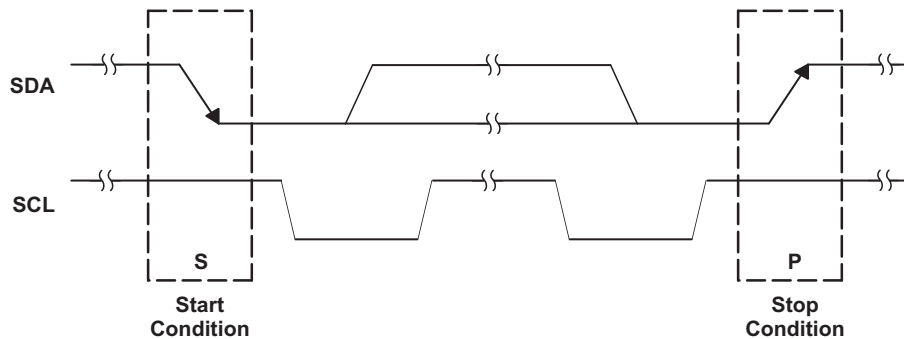

Figure 17. I2C Start and Stop Conditions
The basic I2C start and stop access cycles are shown in Figure 17. The basic access cycle consists of the following:
- The master initiates data transfer by generating a start condition. The start condition is when a high-to-low transition occurs on the SDA line while SCL is high, as shown in Figure 17. All I2C-compatible devices should recognize a start condition.
- To signal the end of the data transfer, the master generates a stop condition by pulling the SDA line from low to high while the SCL line is high (see Figure 17). This releases the bus and stops the communication link with the addressed slave. All I2C compatible devices must recognize the stop condition. Upon the receipt of a stop condition, all devices know that the bus is released, and they wait for a start condition followed by a matching address.